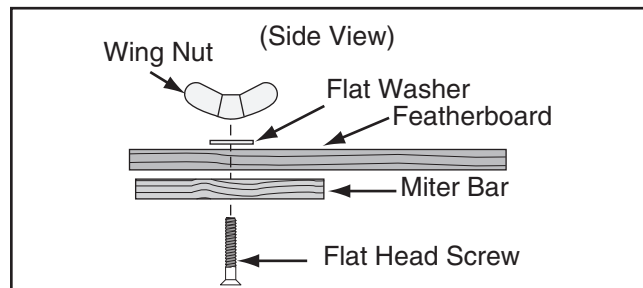

Figure 77. Assembling miter slot featherboard components.
8. Assemble miter bar and featherboard with a $\frac{1}{4}$ "-20 x flat head screw, flat washer, and a wing nut or a star knob (see **Figure 77**). Congratulations! Your featherboard is complete.